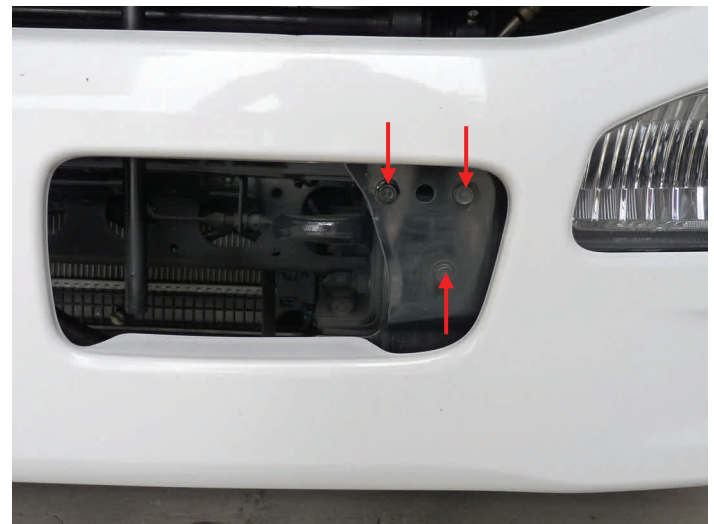

Fig. 2
Remove the bumper from the truck (including the attached light mount bar, headlights and fog lights) by removing the two (2) bolts and one (1) nut as shown in Fig. 2